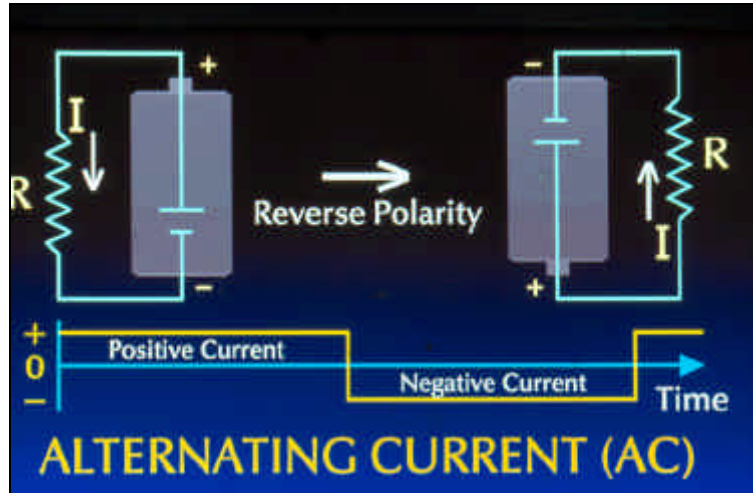

Fig 5
Alternating Current (AC) takes the concept of positive and negative just one step further by quickly reversing the polarity, or order of positive and negative, back and forth (Figure 5). AC is the type of electricity we find in household electrical outlets. At home the AC circuit reverses about 60 times per second, or 60 hertz (Hz). This frequency of AC electricity can directly interfere with our own biological electrical frequencies and result in shocks or stopping of the heart. The ability of electricity to create this type of interference with our own bodies - muscle tetany and contraction, interference with normal heart rhythms, etc. - is termed the Faradic effects of electricity.